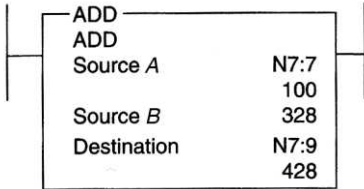

Figure 11-10 ADD instruction for question 15.
15. With reference to the ADD instruction of Figure 11-10, the value of the number stored at Source B is 15._____